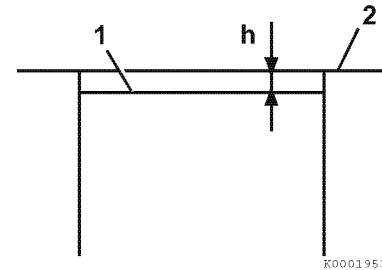

Figure 6-24
3. Use a depth micrometer to measure the distance (**h**) from the cylinder block surface (2, **Figure 6-24**) to the top of the piston (1, **Figure 6-24**). Be careful to avoid the valve relief pockets and any marks stamped on the piston. Take the average of two measurements, 180° apart and in line with the piston wrist pin and record the measurement (**h**).